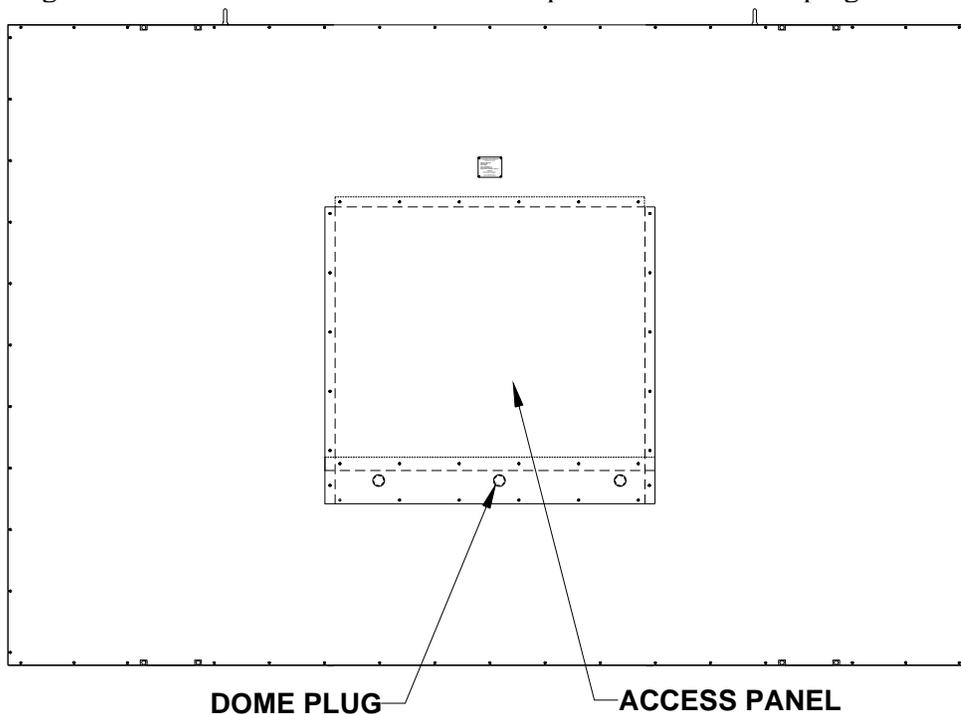

Figure 4 Rear Access Panel
3. Remove the rear access panel and the dome plugs on the plate below the access panel. Figure 4 shows the location of the access panel and the dome plugs.